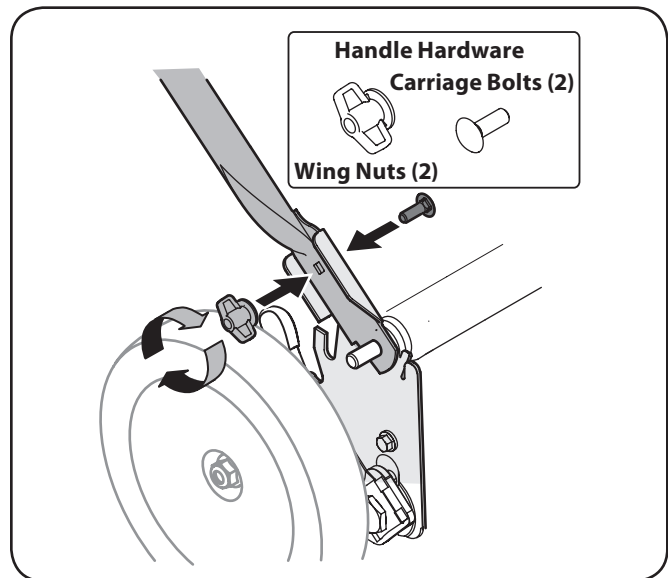

Figure 3-2
2. Insert a carriage bolt found in the manual bag into the upper hole on the handle mounting bracket. Secure with one plastic wing nut, also included in the manual bag. Repeat on other side with remaining hardware. See Fig. 3-2.